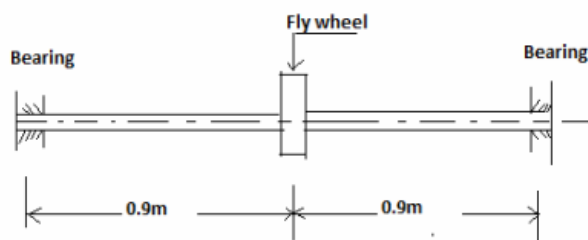

fig.1
- (b) A Solid shaft transmit 2,000kW at the rate of 200 r.p.m. The maximum torque developed in the shaft is 1.8 times the mean torque. The distance between the bearing is 1.8m with a flywheel weighing 5000kg midway between the bearings, as shown in **fig.1** Determine the shaft diameter if a) the maximum permissible stress is 60N/mm^2 and b) the maximum permissible tensile stress is 40N/mm^2 **07**